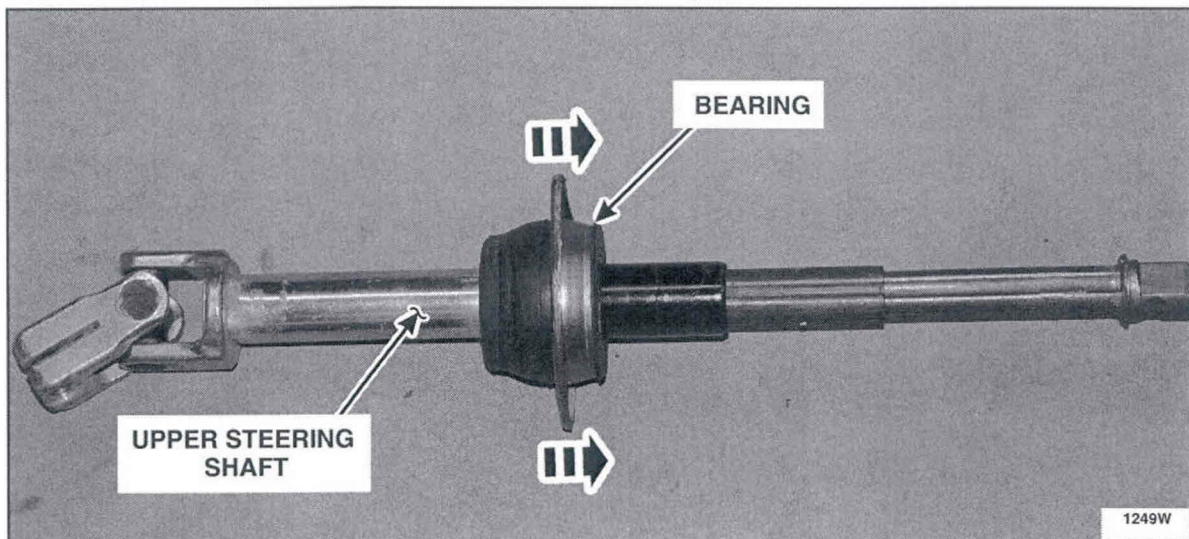

FIGURE 4
5. Remove the bearing from the upper steering shaft. See Figure 4.
9. Install the bearing onto the upper steering shaft. See Figure 4.